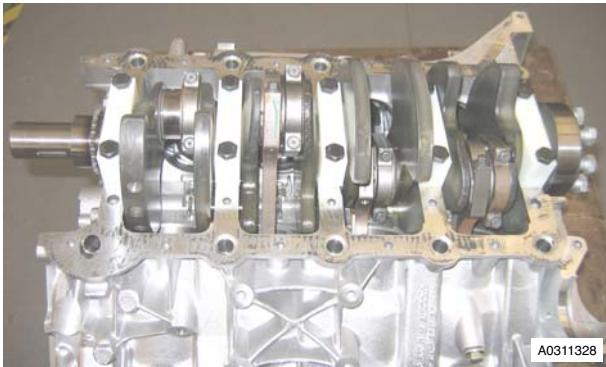

Figure 9
12. Remove bolts securing crankshaft retaining caps (303-534), remove retaining caps (see Figure 9).